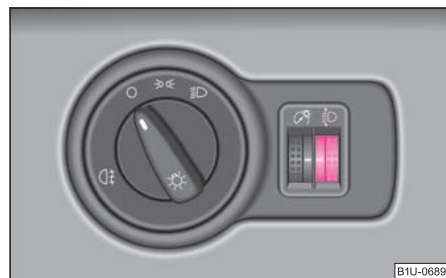

Fig. 48 Dash panel: Lights and Visibility
- Turn the control dial ⇒ fig. 48 until you have adjusted the low beam so that oncoming traffic is not dazzled.